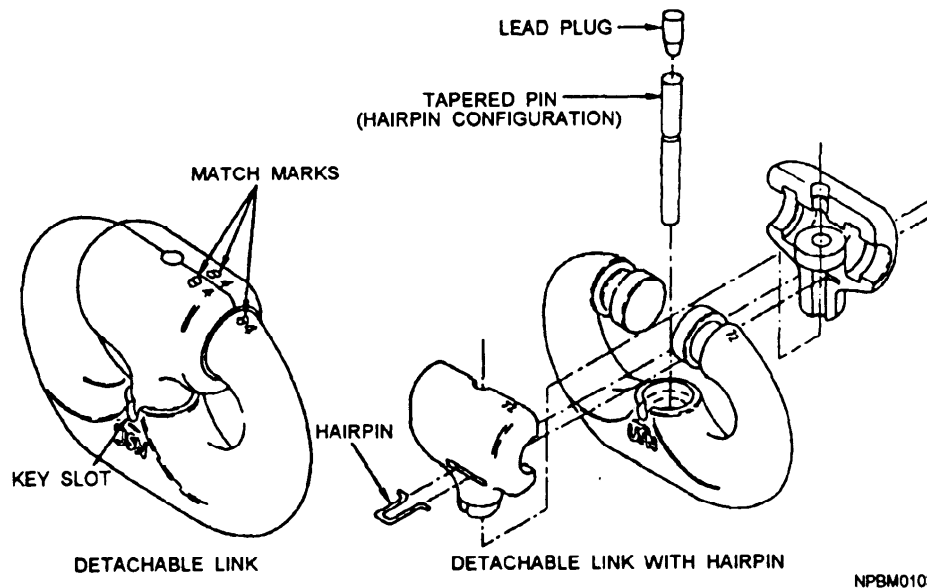

Figure 4-4.—Detachable link.
- **DETACHABLE LINKS.** Shots of anchor chain at one time were joined by an ordinary U-shaped shackle called a connecting shackle. The connecting shackle was replaced by the Kenter shackle, which in turn was replaced by the detachable link, shown in figure 4-4. The Navy type of detachable link consists of a C-shaped link with two coupling plates, which form one side and stud of the link. A taper pin holds the parts together and is locked in place at the large end by a lead plug. Detachable link parts are not interchangeable, so matching numbers are stamped on the C-link and on each coupling plate to ensure identification and proper assembly. You will save time and trouble when trying to match these parts if you disassemble only one link at a time and clean, slush, and reassemble it before disassembling another. When reassembling a detachable link, make sure the taper pin is seated securely. This is done by driving it in with a punch and hammer before you insert the lead plug over the large end of the pin. Detachable link toolbox sets contain tools, including spare taper pins and lock plugs, for assembling and disassembling links and detachable end links.
plates, engages a keyway or groove on the taper pin. (See fig. 4-4.)